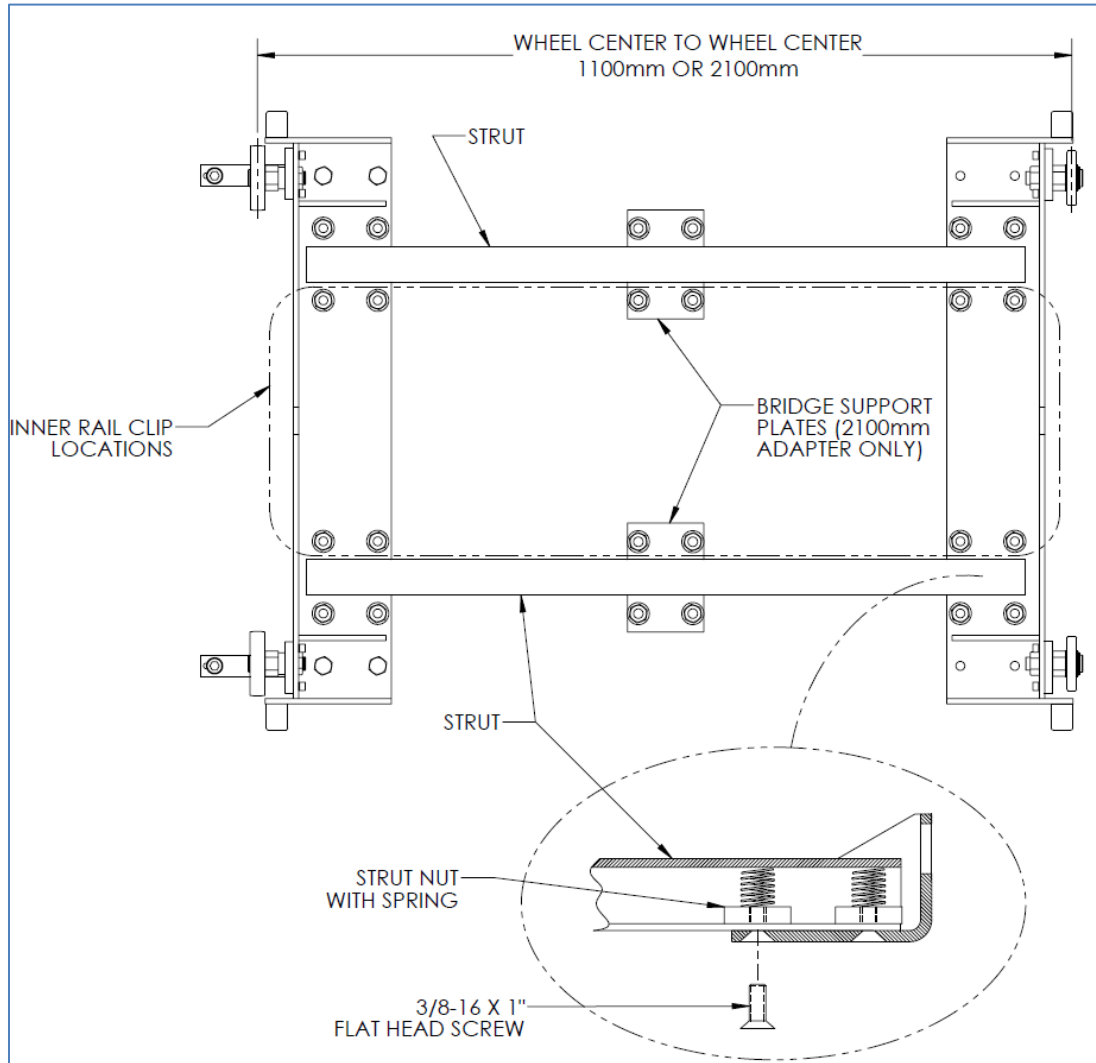
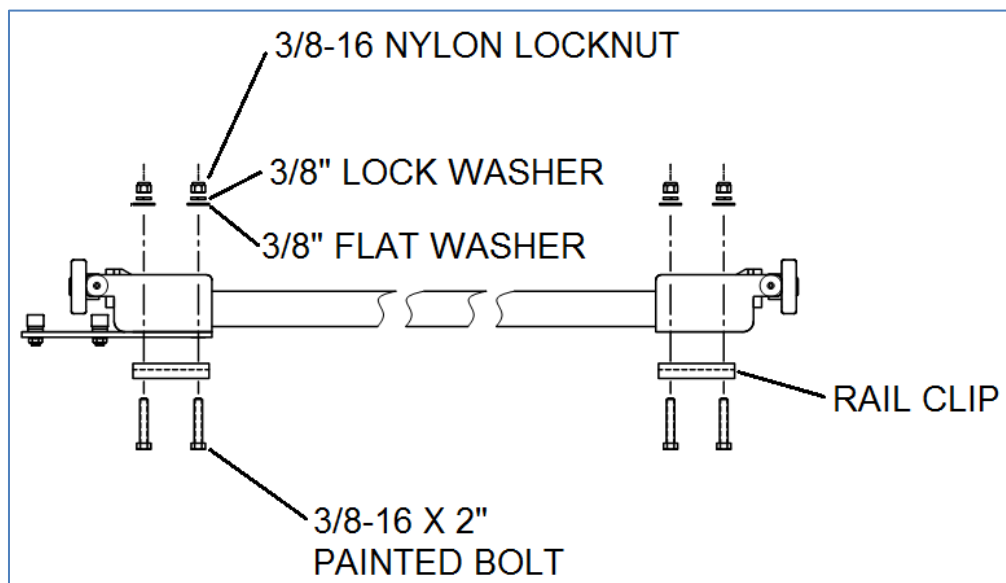

Figure 3
Figure 4
1. Attach the two painted struts that make up the bridge between the rail adapter subassemblies using flathead screws and strut nuts as shown in the cut-away view at the bottom of Figure 3. Use Loctite #242 on screws. Snug up hardware to maintain required dimension and parallelism. Final tightening can be done after final adjustments.
- Loosely attach rail clips to the inner rail clip locations shown in Figure 3 on the rail adapter subassemblies with mounting hardware shown in Figure 4.